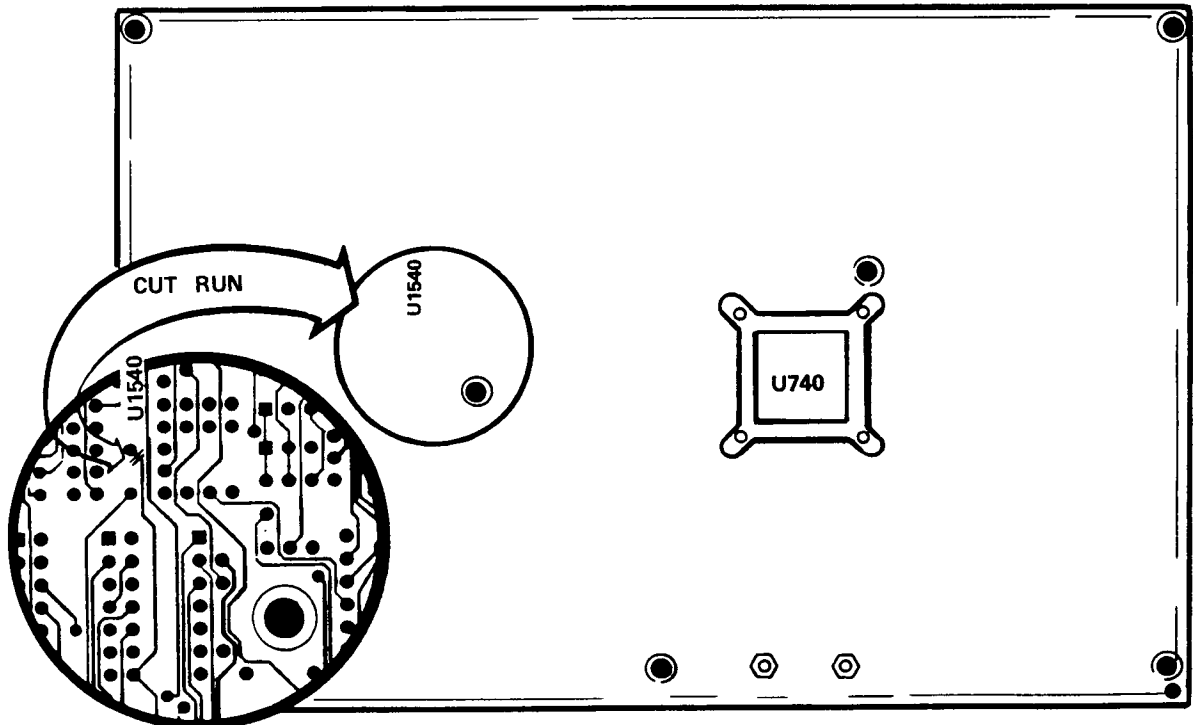

Figure 10. - Partial. (back) solder side Acquisition ckt bd.
- () 20. On the back (solder) side of the circuit board cut and remove a section of the circuit board run connecting U1544, pin 8 to R1543, pin 12, located between pins 6 and 11 of U1540, refer to Figure 10.